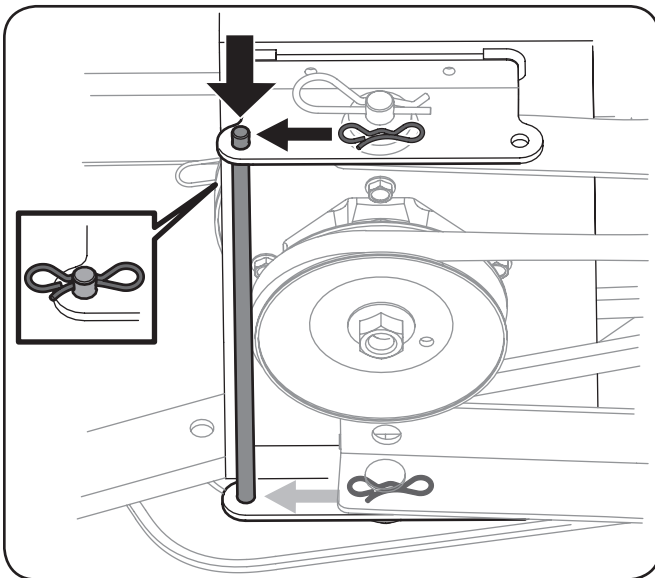

Figure 3-27
- Reinsert the rod into the rear of the carriage assembly and secure it in place with the two hair pin clips removed earlier. See Figure 3-27.